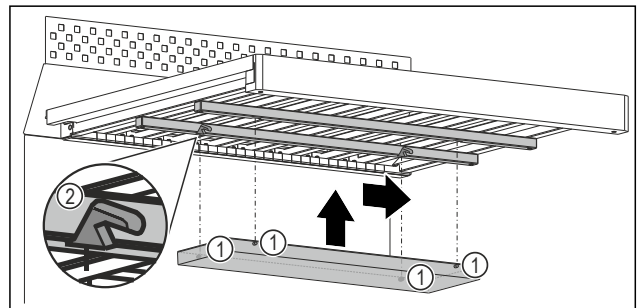

*Fig. 104*
- ▶ Fill with a maximum of 400 ml of water through the holes *Fig. 104 (1)* in the cover.